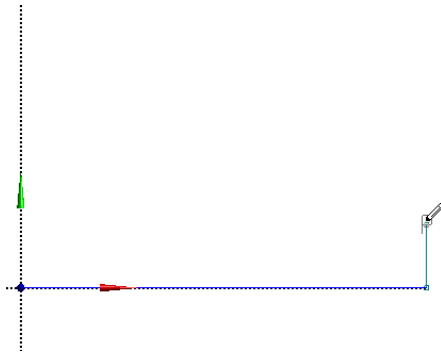

Figure 3-23 Specifying the startpoint of the line 3
11. Now, move the cursor close to the end point of line 2 created in the last step; the symbol of Coincident Point constraint (**P**) is displayed. Click at that point to specify the first point of line 3, as shown in Figure 3-23.